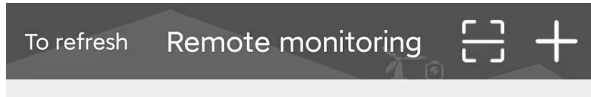

Fig. 2
2. Select remote control (fig. 2).